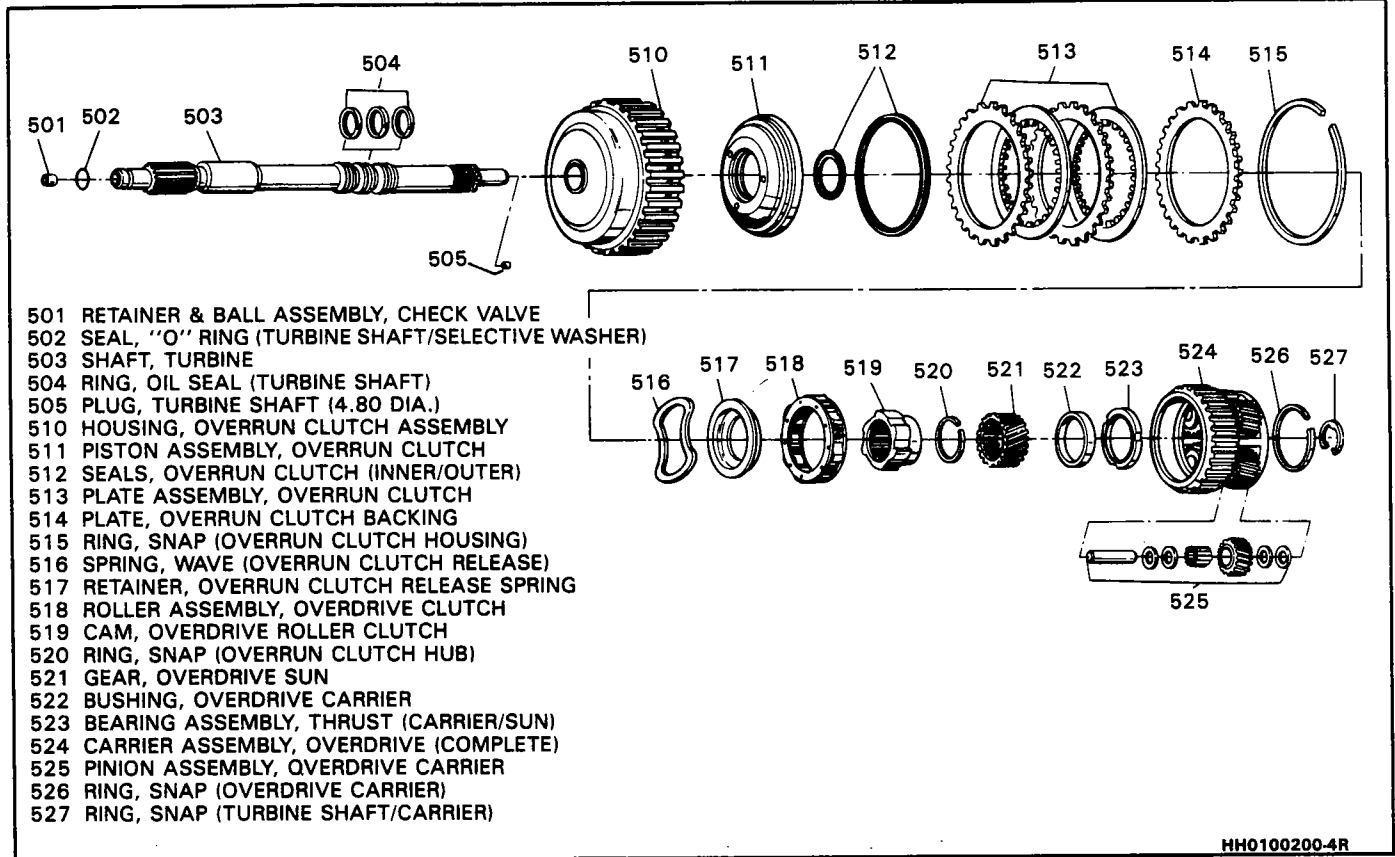
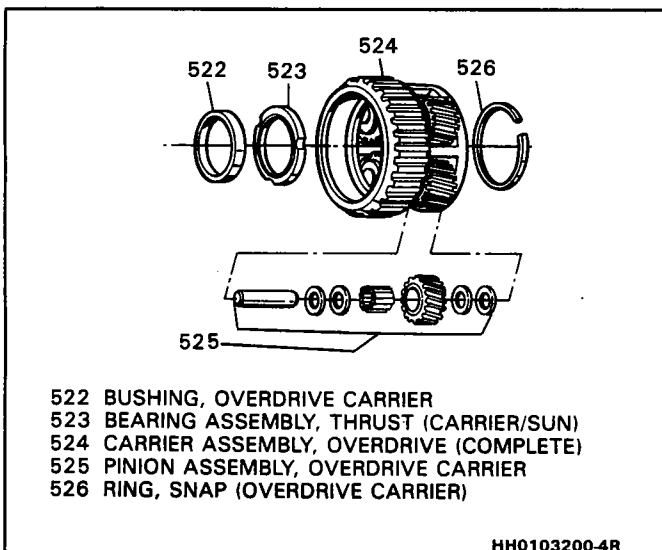
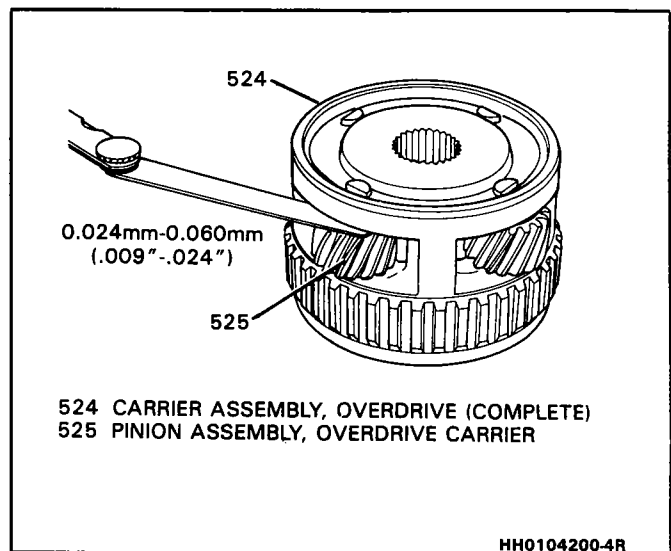

Figure 87 Overrun Clutch and Overdrive Carrier Components
Figure 90 Overdrive Carrier Assembly
Figure 91 Measuring Pinion End Play
**Disassemble (Figure 87)**
1. Snap ring (527).
2. Turbine shaft (503).
3. Overdrive assembly (524).
4. Overdrive sun gear (521).
5. Snap ring (515).
6. Overrun clutch backing plate (514).
7. Clutch plates (513).
1. Snap ring (520).
3. Roller assembly (518).
4. Retainer (517) and waved spring (516).
5. Overrun piston (511).
6. Inner and outer piston seals (512).
- Clutch plates (513) :
- Retainer (517) for distortion or damage.
- Overrun clutch piston (511) for:
- Overrun clutch housing (510) for:
**Assemble (Figures 87, 88 and 89)**
1. Inner and outer piston seals (512).
3. Overrun clutch piston (511). Use J-26744-A while pushing down on piston.
5. Waved spring (516).
6. Spring retainer (517)
**Assemble (Figure 87 and 89)**
1. Roller assembly (518) onto roller clutch cam (519).
- roller assembly locator tangs must set on clutch cam (519)
3. Compress retainer (517).
- install snap ring (520)
4. Clutch plates (513).
5. Backing plate (514).
6. Snap ring (515).